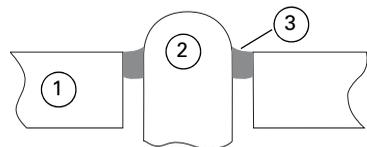

Fig. 5: Sealed LED
- 3 If an IP22 rating is required additional sealing must be applied. Apply Loctite S1595 silicone sealant around the LED, as shown in Fig. 5. Note how the sealant fills the small gap between the LED and its hole in the cover.